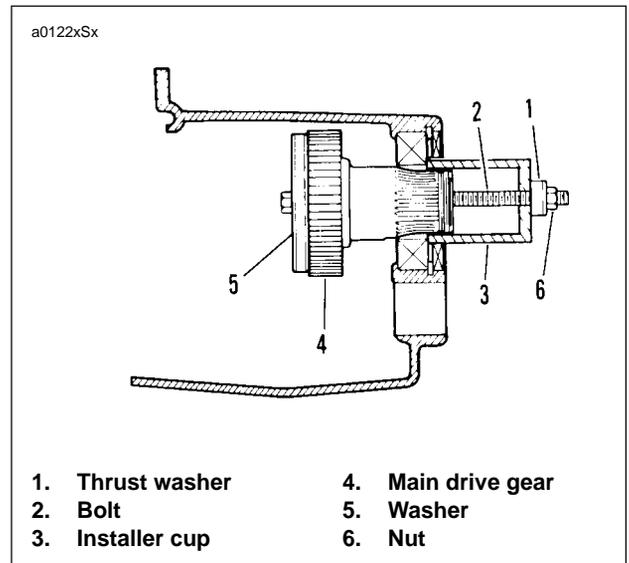
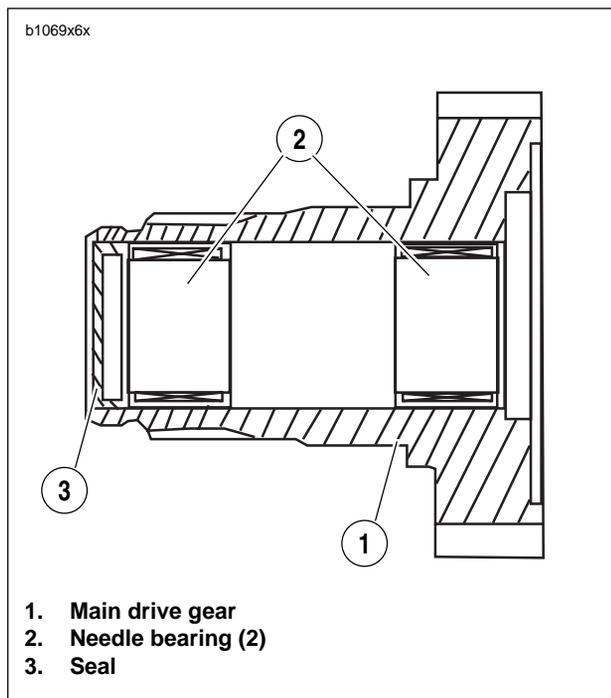

Figure 6-73. Main Drive Gear Installation
Figure 6-74. Main Drive Gear Assembly
2. See Figure 6-73. Use MAIN DRIVE GEAR REMOVER AND INSTALLER (Part No. HD-35316-A) for assembly.
- a. Take bolt (2) and place washer (5) followed by main drive gear (4) over end of bolt.
- c. Insert threaded end of bolt (2) through installer cup (3) and thrust washer (1).
- d. Thread nut (6) onto end of bolt (2). Tighten nut (6) until shoulder on gear (4) bottoms against inner race of bearing.
3. See Figure 6-74. Tap in **new** seal (3) at threaded end of 5th gear to a depth of 0.060-0.030 in. (1.524-0.762 mm).